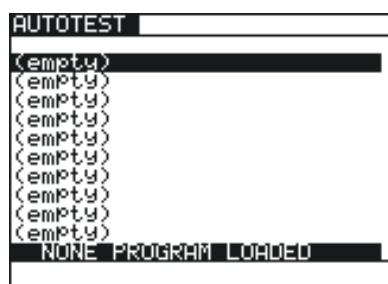

Fig. 45. Main menu in Autotest function
STEP 3. Set rotary switch on the instrument to **AUTOTEST** position, the heading in fig.45 is displayed.